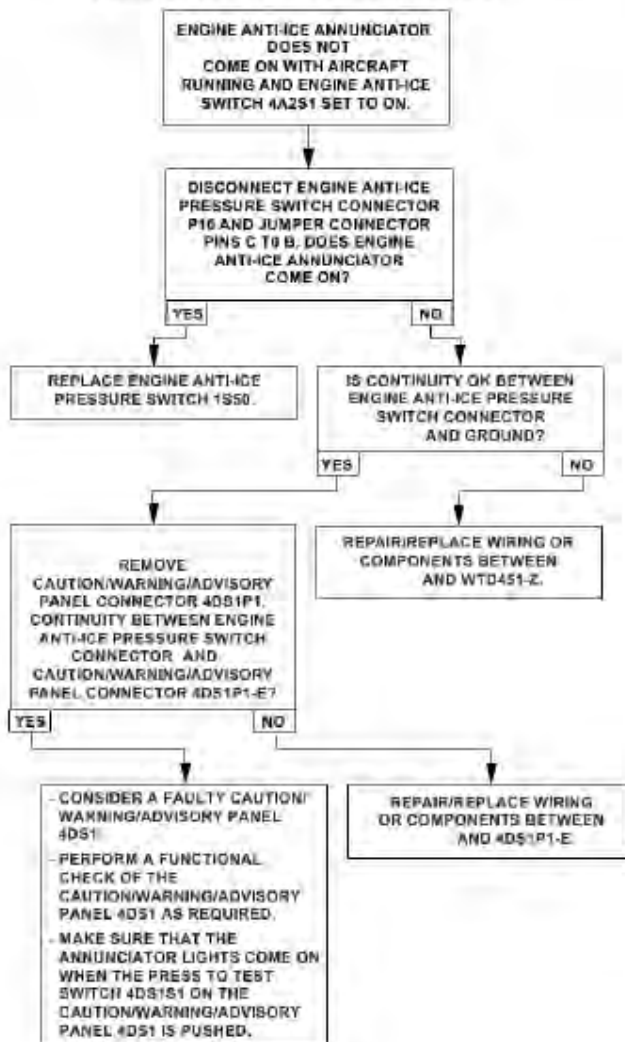

Figure 96-55: ENGINE ANTI-ICE Annunciator Circuit - Trouble No. 2
- If the ENGINE ANTI-ICE annunciator does not come on, refer to Trouble No. 2 (Figure 96-55).